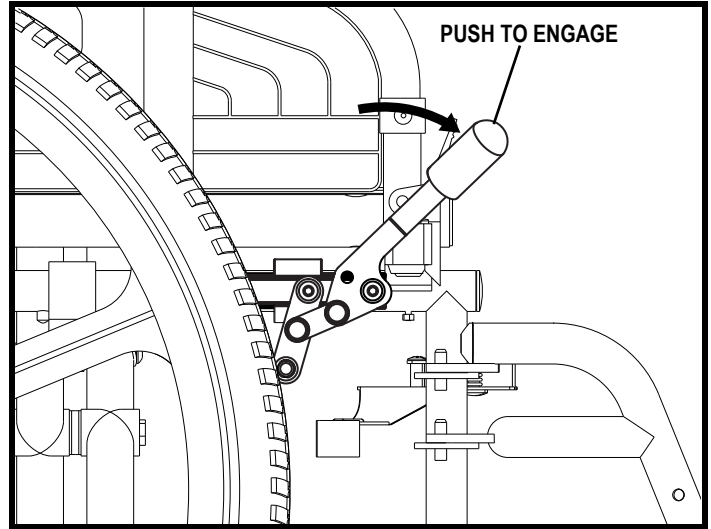

Figure 6. Right Manual Push-to-Lock Wheel Lock
1. Engage both manual wheel locks. See **figure 6 or 7**.